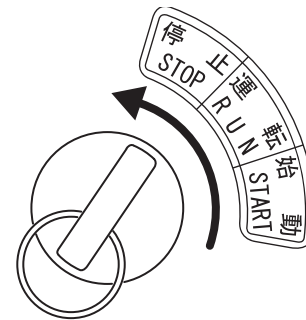

Figure 23. Key Switch (Stop)
3. Turn the key to the "Stop" position (Figure 23). The buzzer will stop.